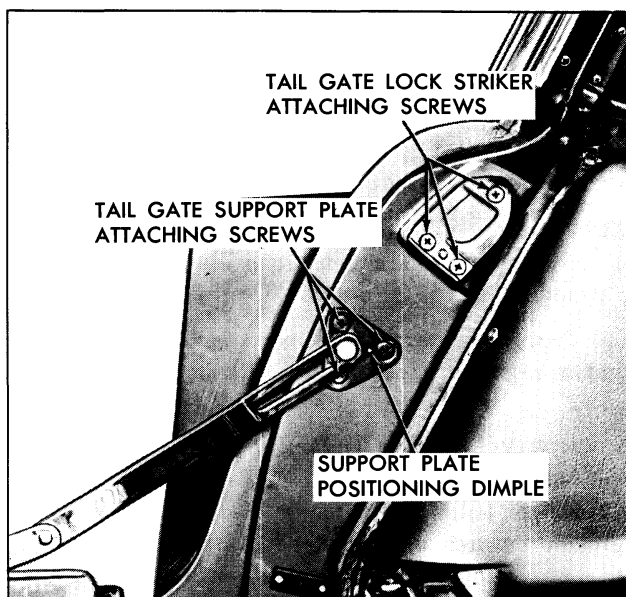

Fig. 5-16 Support and Lock Striker
3. Remove tail gate support attaching screws securing support plates to body and tail gate (Figs. 5-16 and 5-17) and remove support assembly.
4. To install tail gate support, reverse removal procedure. Install support plate to body with positioning dimple towards front of body (Fig. 5-16).